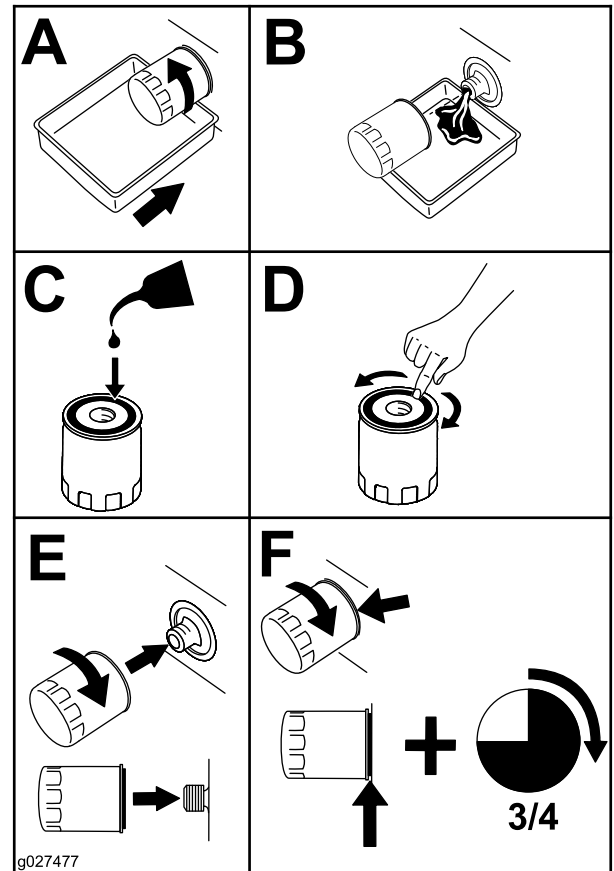

Figure 48
- Change the engine-oil filter as shown in Figure 48.